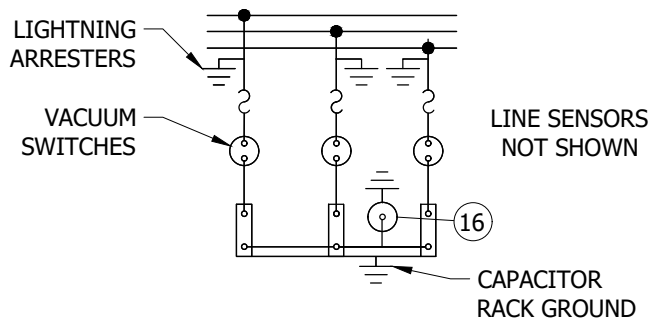
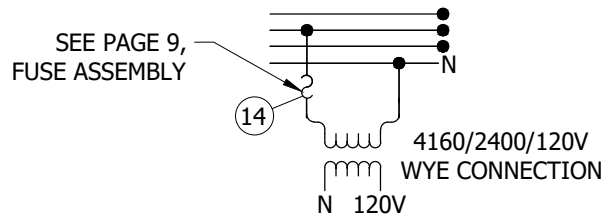

FIGURE 3
FIGURE 4
- (F) **ON ALL POLES:** GROUNDING OF THE ARM-MOUNTED LINE SENSORS IS REQUIRED. THE ARRESTORS, CAPACITOR RACK, **YAGI ANTENNA**, AND THE CAPACITOR RELAY CONTROL BOX ALSO REQUIRE GROUNDING. ON WOOD POLES, CREW TO INSTALL SEPARATE GROUND RUN TO THE CONTROLLER. ON WOOD AND STEEL POLES CREW TO USE COMMON GROUND FOR ARRESTORS, CAPACITOR RACK, **AND YAGI ANTENNA**. SEE PAGE 4, GROUNDING POINTS.
- (M) SEE FIGURE 2 FOR ALTERNATE DEADEND CONSTRUCTION, FIGURE 3 FOR WIRING DIAGRAM, AND FIGURE 4 FOR POTENTIAL TRANSFORMER CONNECTION.